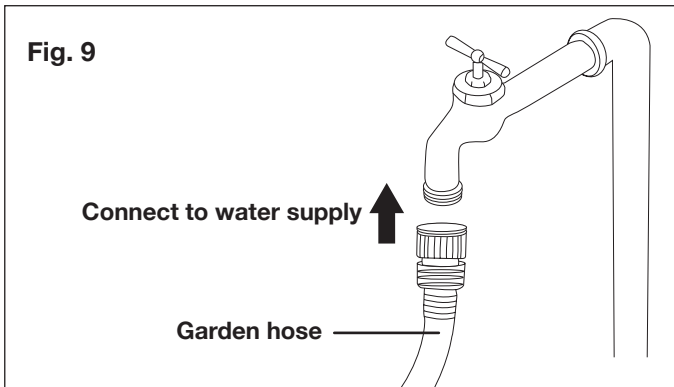

Fig. 9
9. Attach garden hose to water supply (Fig. 9).